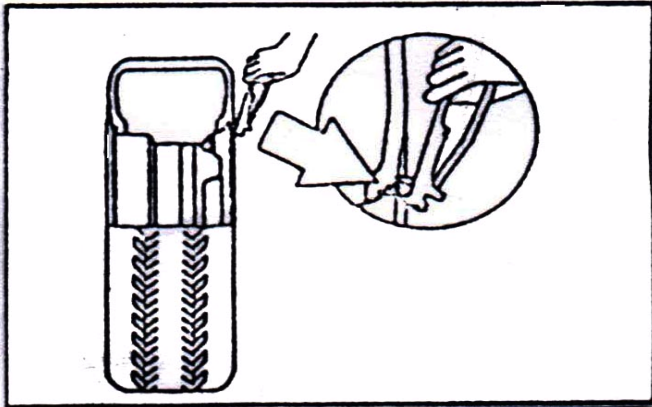

FIG 17
5.1.1 Deflate the air in the tire completely. Use the special tool to detach the weight on the rim and pull out the core (FIG17).